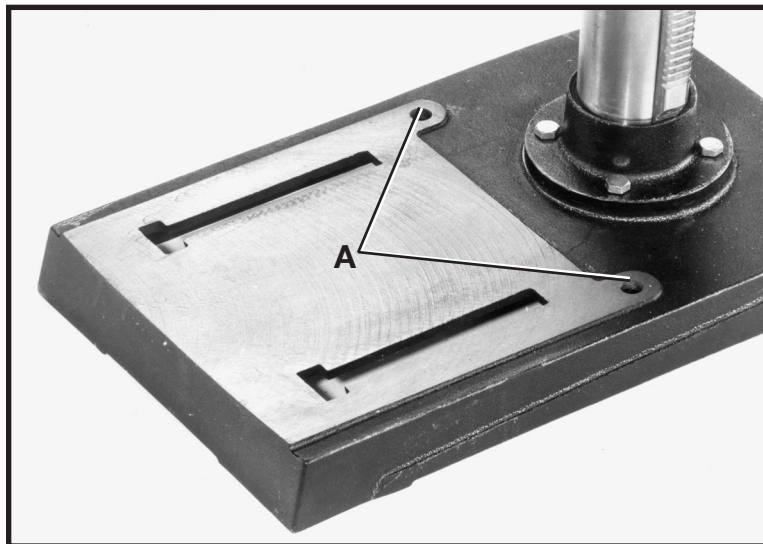
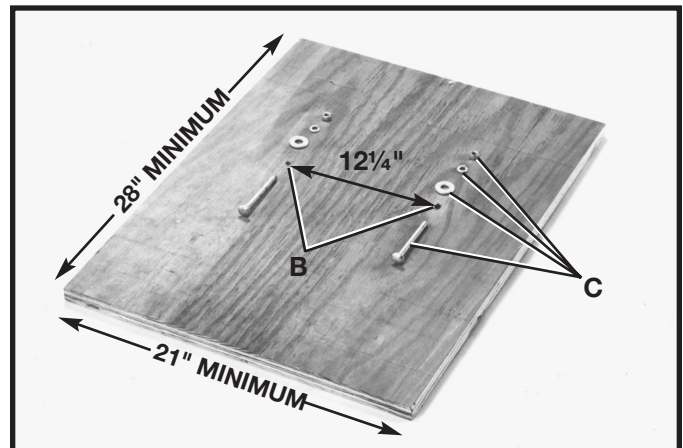

Fig. 20
Fig. 21
If your drill press is to be used in a permanent location, the drill press base must be secured to the supporting surface with fasteners through the two mounting holes, (A) Fig. 20, in the drill press base.
1. Drill two 3/8" diameter holes 12 1/4" (B) Fig. 21, apart from center, corresponding to the mounting holes (A) Fig. 20, of the drill press base in a 21" by 28" minimum size plywood board.
2. Fasten the drill press base to the mounting board using the carriage bolts, flat washers, lockwashers, and hex nuts (C) Fig. 21, furnished with your drill press. The holes for the carriage bolt heads must be countersunk so that the bolt heads are flush or below the bottom surface of the mounting board in order to guarantee proper stability.